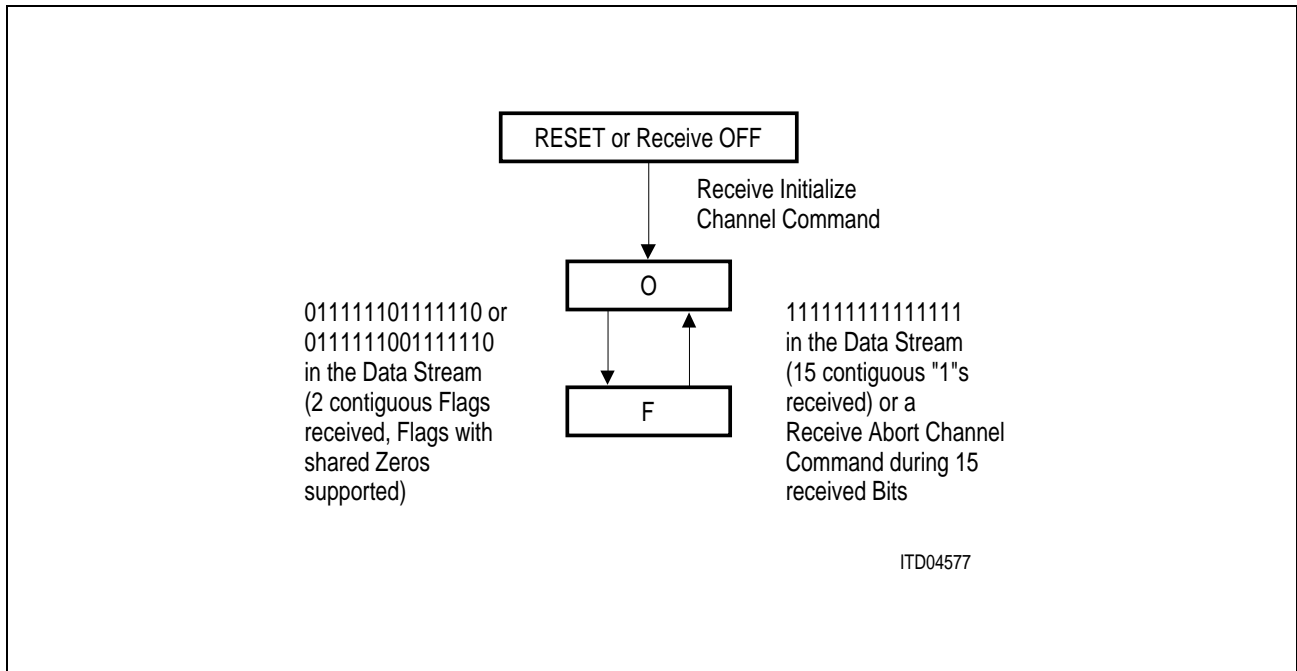

Figure 32
2. The receiver always remains in one of two possible interframe time-fill states: 'F' and 'O'. **Figure 32** illustrates them.